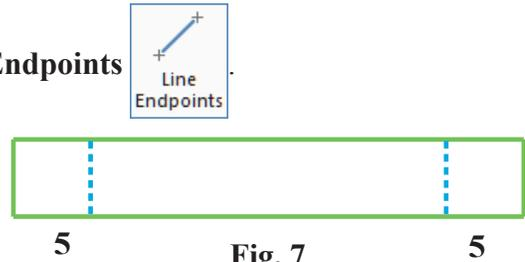

Fig. 7
Step 2. Sketch the lines in **Fig. 7**.